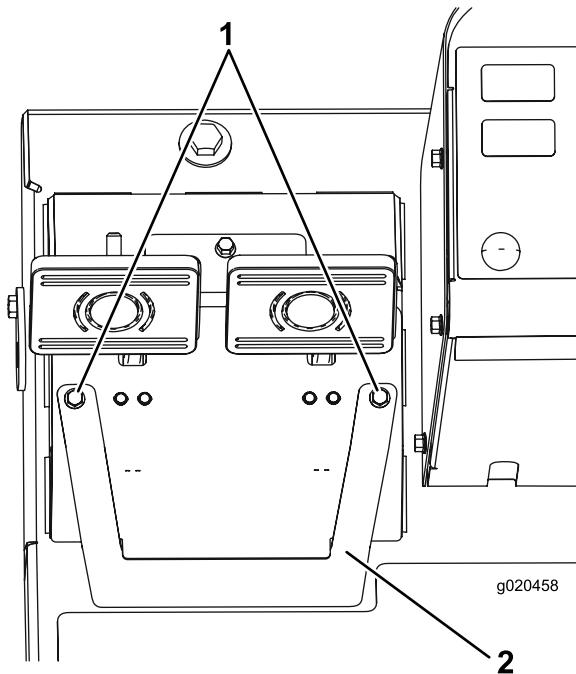

Figure 90
- A. Loosen the 2 mounting screws and remove the brake-adjustment cover (Figure 90).